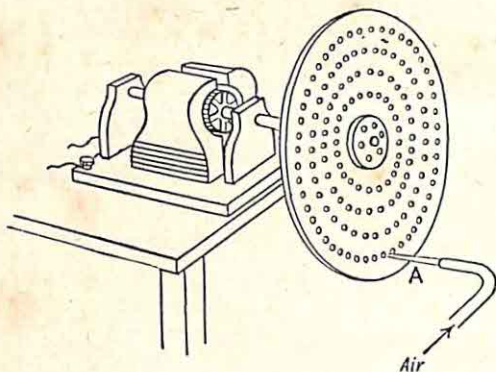

FIG. 80.
*Expt. F.*—A thin metal plate has small holes bored at equal distances on the circumferences of four concentric circles, the respective circles with increasing diameters having 24, 30, 36 and 48 holes. This disc, called a **disc siren**, is mounted on the axle of an electric motor connected, through a rheostat, to the mains (Fig. 80). When the motor is running steadily a draught of air from a wind chest is directed against the innermost circle of holes, and the periodic escape of air through hole after hole produces a note. Each of the other circles is treated in turn and the four notes heard are identified as *doh*, *me*, *soh*, *doh*!. The